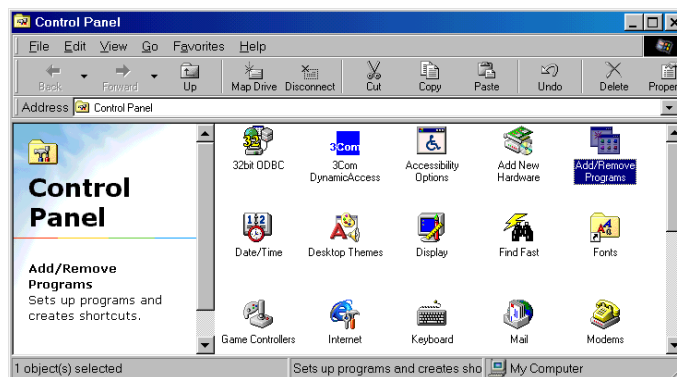
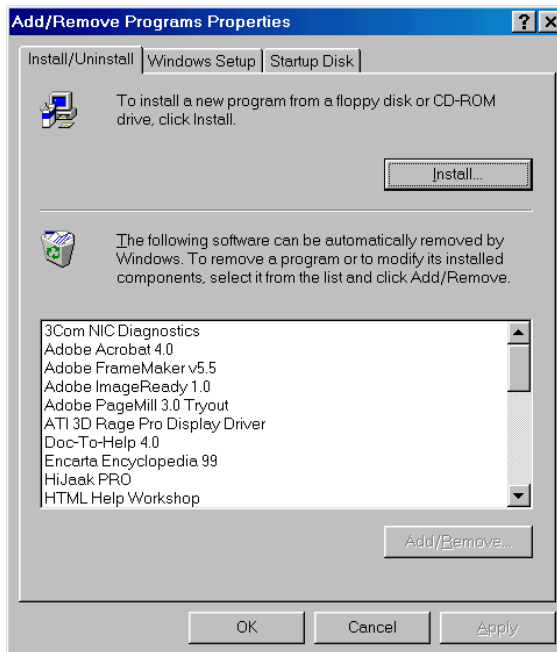

Figure 3-3. Windows Control Panel
Figure 3-4. Windows Add/Remove Programs Properties Sheet
1. From the Windows **Start** menu, click **Settings**, click **Control Panel**, and then click the **Add/Remove Programs** (Figure 3-3) icon to open the Add/Remove Programs Properties sheet (Figure 3-4).